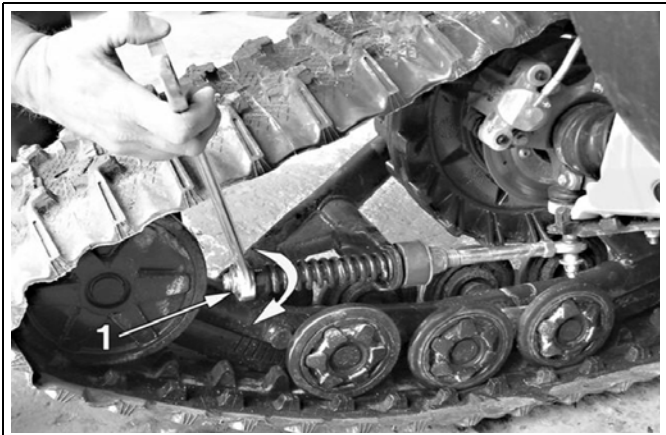
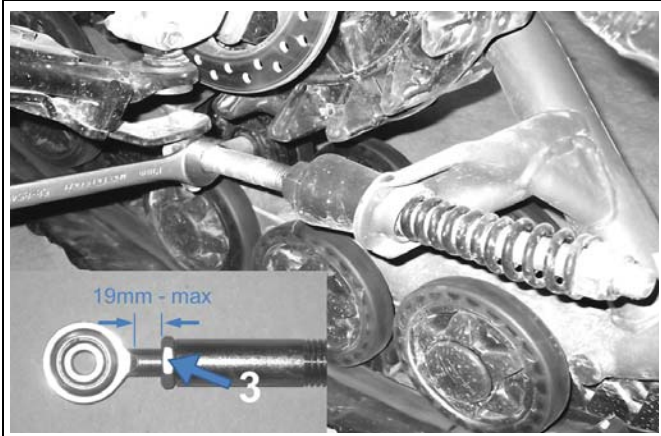

Figure 6
Figure 7
- Turn the nut (1) until it comes in contact with the spring, then compress the spring by turning this nut 1.5 turns (refer to Figure 6).
NOTE: In certain rare cases, where the adjustment of the nut (article 1 on Figure 6) compressing the spring, is close to the end of the threaded rod, lengthen the assembly by loosening the locknut (see Figure 7) and unscrewing the rod end so that a maximum 19 mm of its threads are visible. Make sure that the locknut is well tightened after the installation.